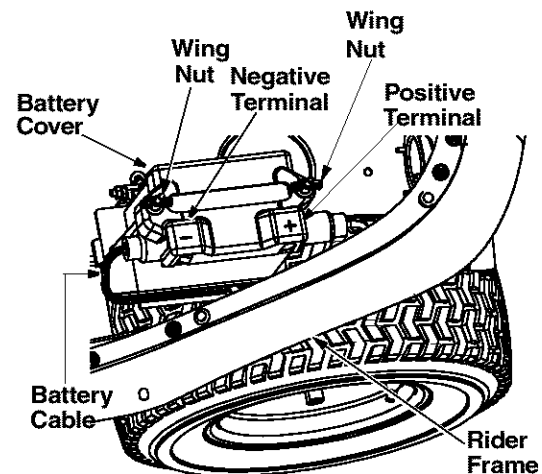

Figure 3
The battery is located under the hood assembly above the left rear wheel. Refer to Figure 3 .
2. Remove both wing nuts securing the battery and cover to the battery hold-down rods. See Figure 3 .
3. Remove red and black insulation caps from battery terminals. See Figure 3 .
5. Attach the red battery cable to the positive terminal (marked +), and the black battery cable to the negative terminal (marked -) on the battery. See Figure 3 .